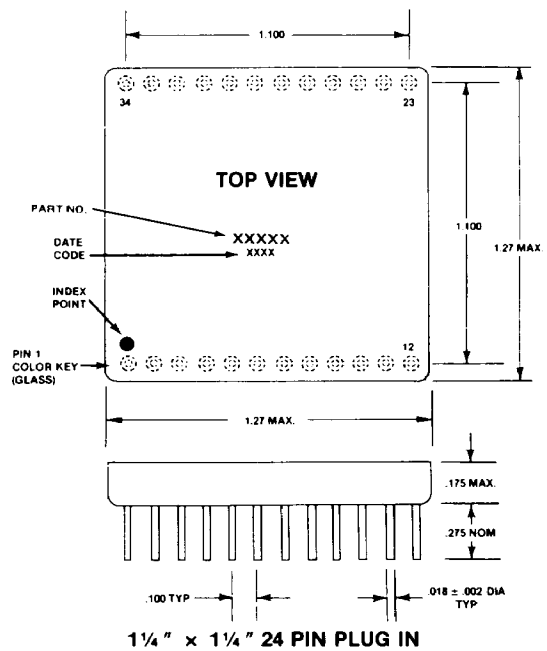

FIGURE 6.
*See Figure 6 for outline drawings